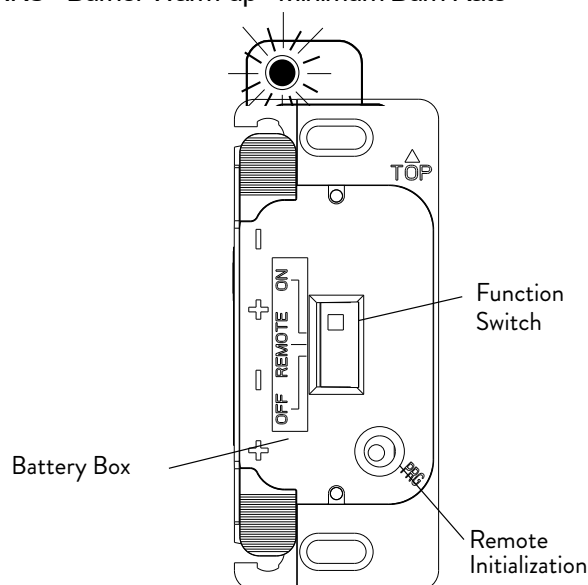

Figure 71
3. Press the black initialization button (PRG) at the lower right of the battery box faceplate (fig. 71 page 34). The board will “beep” three times signalling a 10-second synchronization time limit.